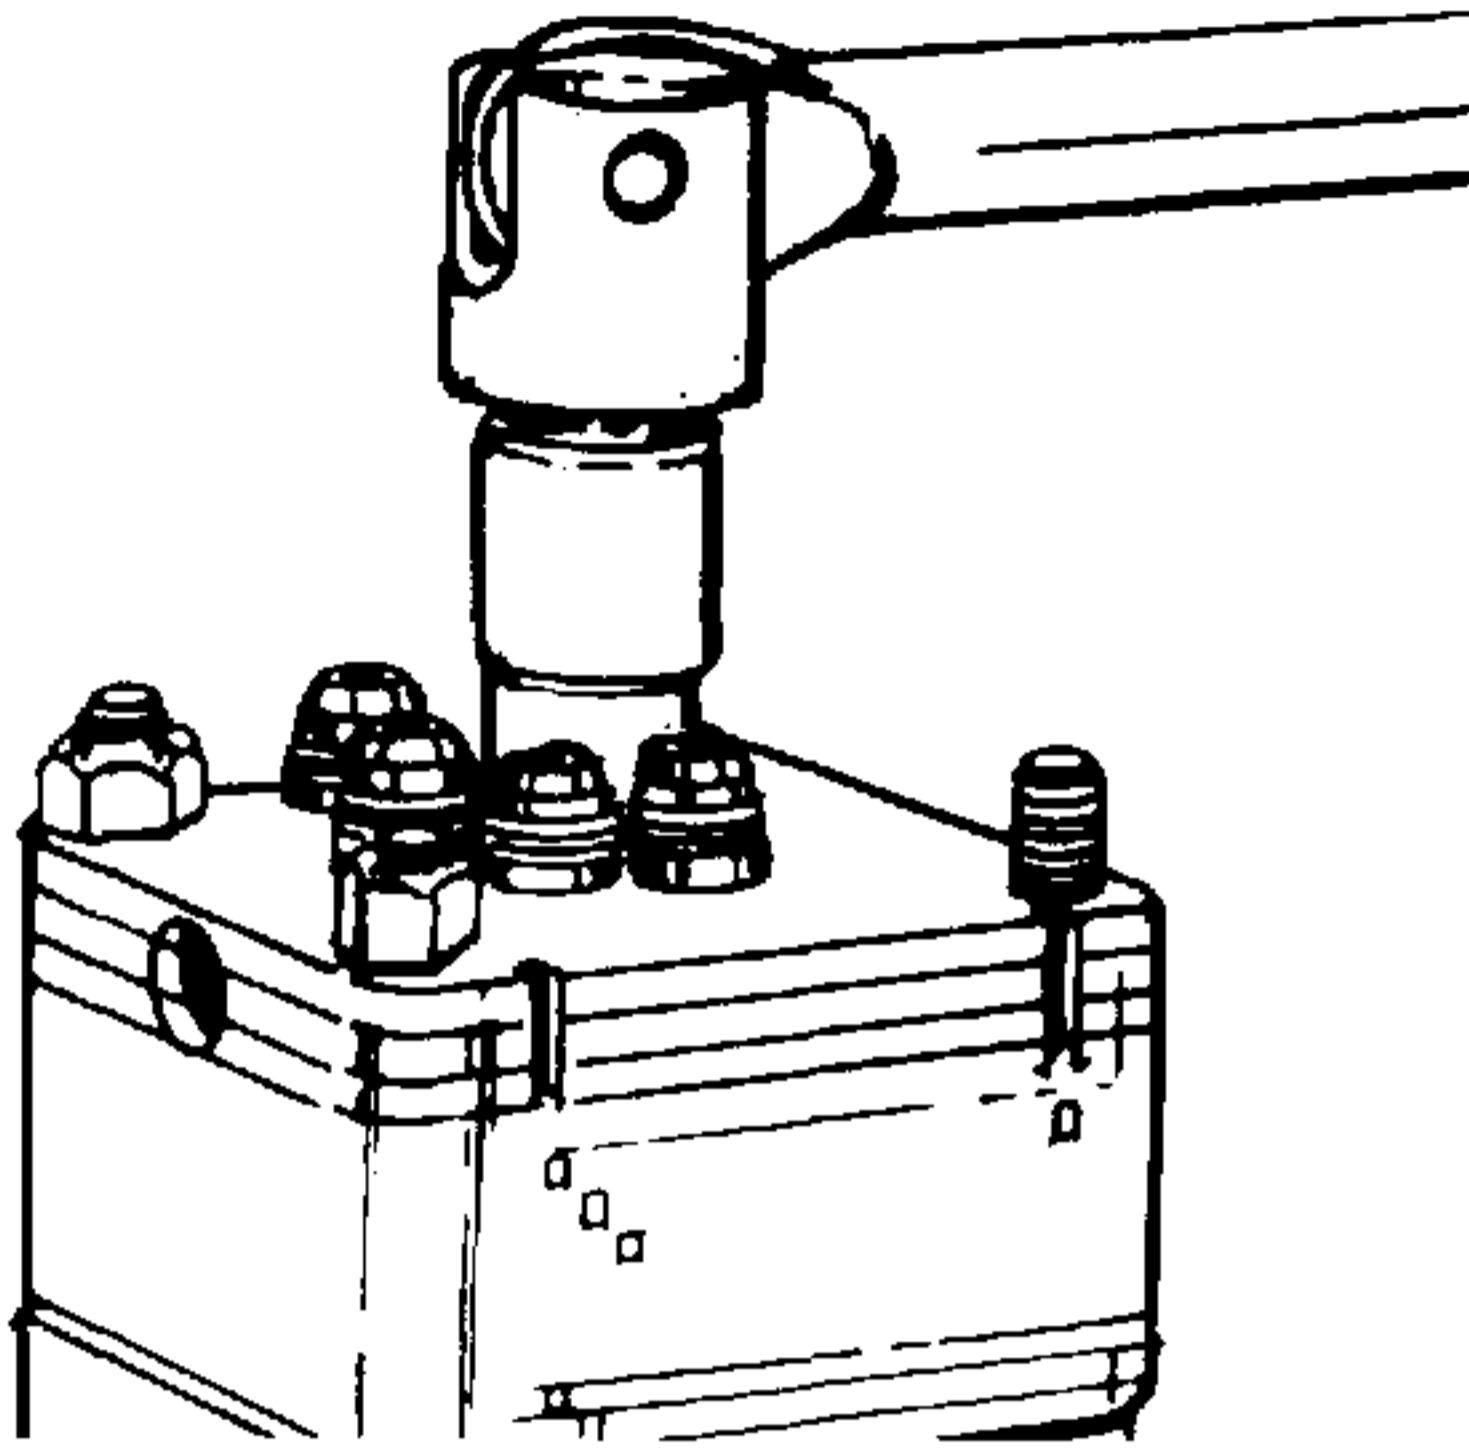

Figure 4-90. Installing Nuts on Special Bolts.
42. Install nuts (1, Figure 4-1) onto special bolts (38). Tighten each one gradually until resistance is felt. Torque to 18-22 ft-lbs (24-30 N·m) in sequence shown. See Figures 4-90 and 4-91.